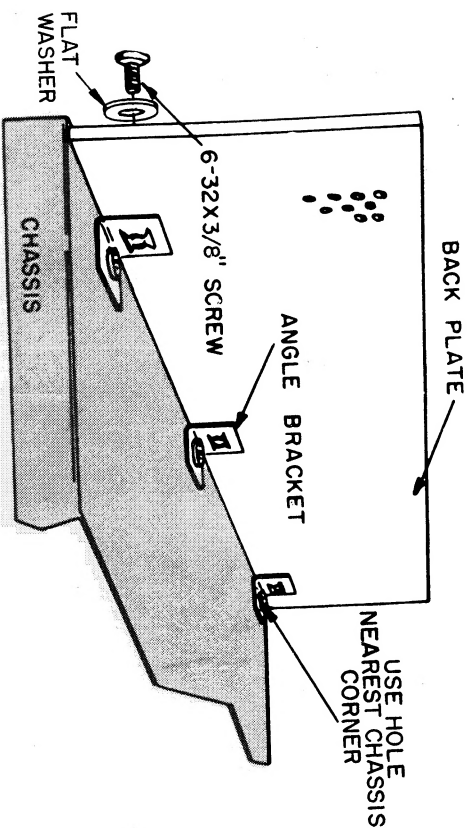

FIGURE 2.
- ✓ 3 angle brackets. Mount on top of the chassis, the upright portion parallel to the rear edge of chassis, with three 6-32 x 1/4" screws, lockwashers and nuts, as shown in Figure 2. Use the plain, unthreaded bracket holes for this step.